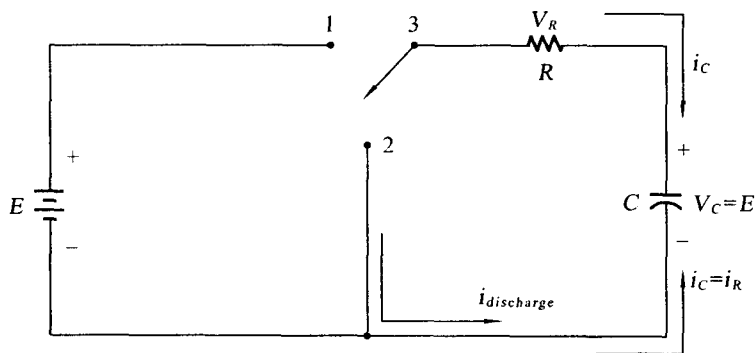

Figure 1.5 Capacitor discharge
**Capacitor Discharge** In Figure 1.5, when the switch is placed in position “1”, the capacitor will charge toward the supply voltage  $E$  through  $R$ . At any point in the charging process, if the switch is moved to “2”, the capacitor will begin to discharge. Discharge circuit includes  $C$  and  $R$ , therefore  $\tau = RC$ . As explained before, the time constant for a series  $R$ - $C$  circuit is equal to  $\tau = RC$  where  $\tau$  is in seconds when “ $C$ ” is in farads and “ $R$ ” is in ohms.